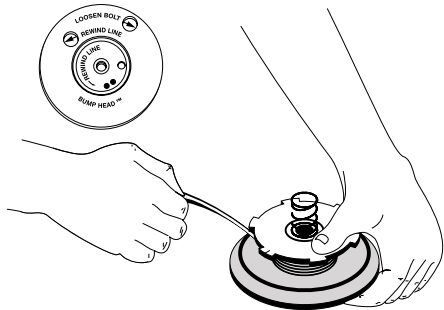

Fig. 33
7. Wind the lines in tight even layers, onto the reel (Fig. 33). Wind the line in the direction indicated on the inner reel. Place your index finger between the two lines to stop the lines from overlapping. Do not overlap the ends of the line.